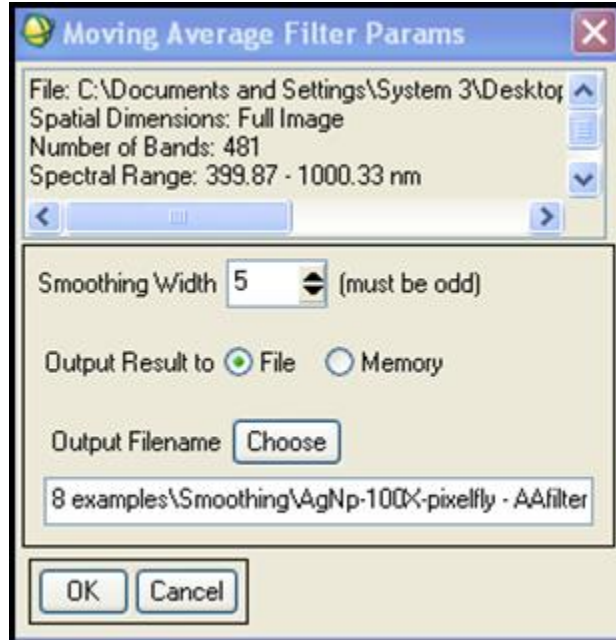

Figure 11g. Moving Average Filter Params Box
- Select the image in the Select input file dialog, or click Open, New. Click OK. The Moving Average Filter Params box will open (Figure 11g). Keep all image bands, to avoid the mistake of creating files of differing numbers of bands.